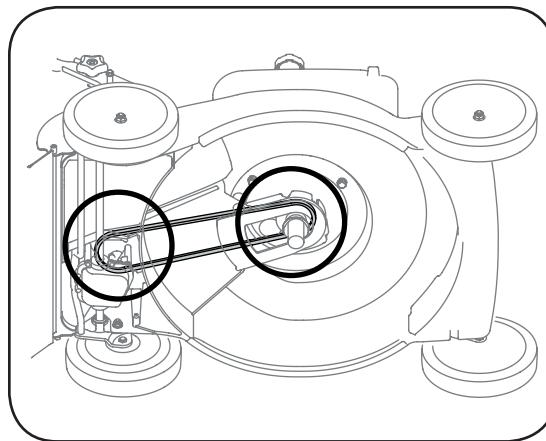

Figure 5-5: Remove belt from transmission then engine.
7. Once belt is off transmission pulley, push down on deck baffle to access engine pulley and slide belt off this pulley and out from under the deck, Figure 5-5.